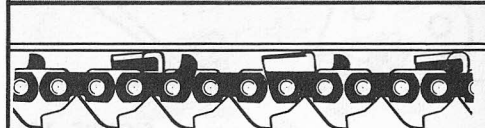

FIGURE 22
2. If the above mentioned Jointing Tool is not available place a straight edge, long enough to cover at least six cutters, on top of the chain. Next check the existing joint with a standard .025 feeler gauge. If you cannot insert the feeler give one stroke of a flat file and recheck. When correctly jointed you should just feel the drag between the straight edge and the top of the depth gauge. Repeat this step for each depth gauge throughout the entire chain. (Figure 22). This method of jointing chains is much slower and less accurate than with a proper jointing tool.